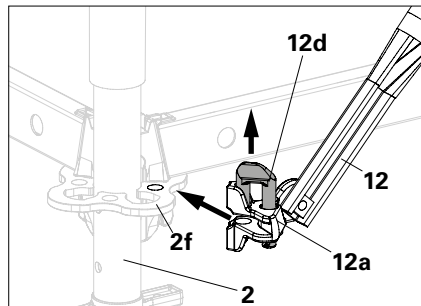

Fig. A2.20c
3. Push the head of the diagonal bracing (**12c**) with bolt (**12d**) pulled upwards on the hole (**2f**) of the bottom rosette of the Base Standard (**2**). (Fig. A2.20c)